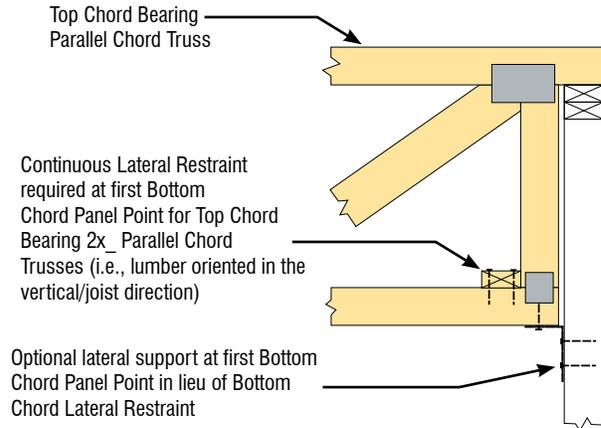

FIGURE B2-57
- ✓ For Top Chord Bearing, 2x_ Parallel Chord Trusses, install Continuous Lateral Restraint at the first Bottom Chord Panel Point to prevent torsional overturning under Load (see Figure B2-57). Consult the TDD for Trusses with lumber oriented in the 3x_ or 4x_ (i.e., horizontal, flat or plank) direction.